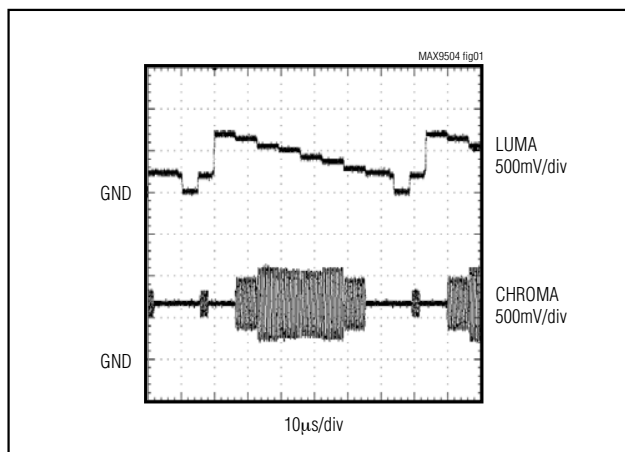

Figure 1. Oscilloscope Trace of Luma and Chroma Signals from Video Current DAC
Video current DACs source current into a resistor connected to ground. The output voltage range for composite video and luma (Y) is usually from ground up to 1V (see Figure 1). Notice that the sync tip is quite close to ground. Standard single-supply amplifiers with rail-to-rail outputs have difficulty amplifying input signals at or near ground because their output stages enter a nonlinear mode of operation when the output is pulled close to ground.
At the output of a video current DAC, the blank level of the chroma signal is usually between 500mV to 650mV. The voltage swing above and below the blank level is approximately ± 350 mV (see Figure 1). If the blank level is 550mV, then the lowest voltage for the chroma signal is 200mV. For the case of chroma signals, no input level shift is needed because 200mV gained up by two is 400mV, which is well within the linear output range of the MAX9504A or MAX9504B. Since the MAX9504A does not have an input level shift, the MAX9504A should be used with chroma signals. In summary, use the MAX9504B with composite video and luma signals from a DAC, and use the MAX9504A with chroma signals from a DAC.